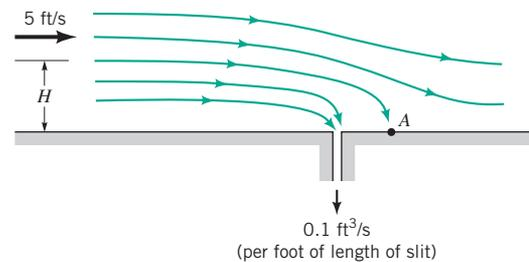

FIGURE P6.41
6.41 Water flows over a flat surface at 5 ft/s as shown in Fig. P6.41. A pump draws off water through a narrow slit at a volume rate of 0.1 ft3/s per foot length of the slit. Assume that the fluid is incompressible and inviscid and can be represented by the combination of a uniform flow and a sink. Locate the stagnation point on the wall (point  $A$ ), and determine the equation for the stagnation streamline. How far above the surface,  $H$ , must the fluid be so that it does not get sucked into the slit?